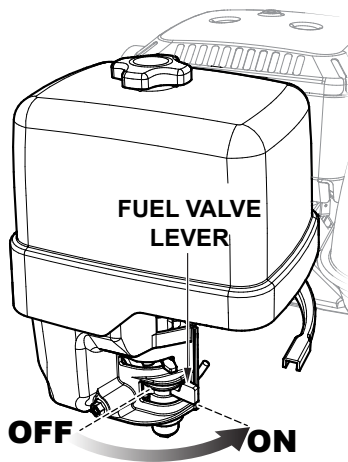

Figure 27. Engine Fuel Valve Lever (ON)
1. Place the engine fuel valve lever in the **ON** position (Figure 27).